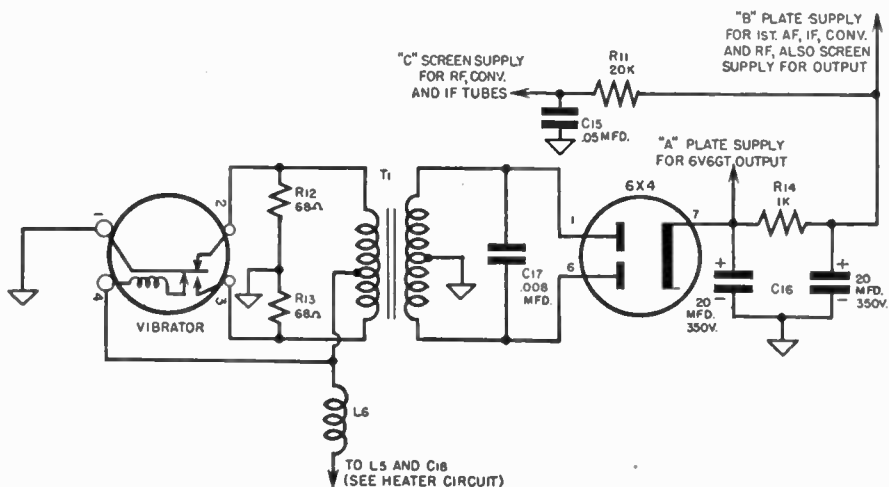

Fig. 8-25. Auto radio power supply circuit.
b) Power Supply Circuit. See Figure 8-25.